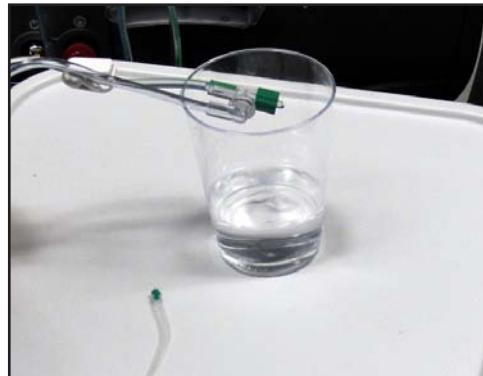

Figure 5-8 Infusion Tubing in Sterile Cup
- 4 Place green striped infusion tubing with snap clamp in a sterile cup as shown in Figure 5-8.